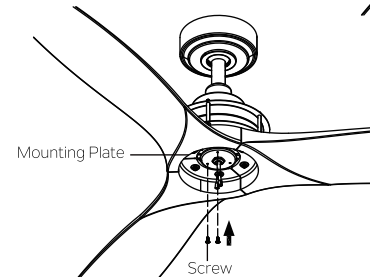

Fig. 23
Step 3. Reinstall two screws to the mounting plate (do not tighten these two screws). (Fig. 23)